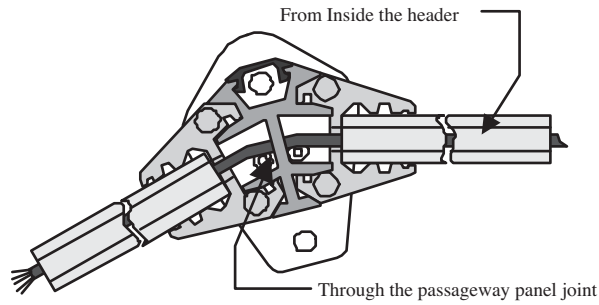

Figure 21
- Push the wire cable through the angle Extrusion as shown in **Figure 21**.